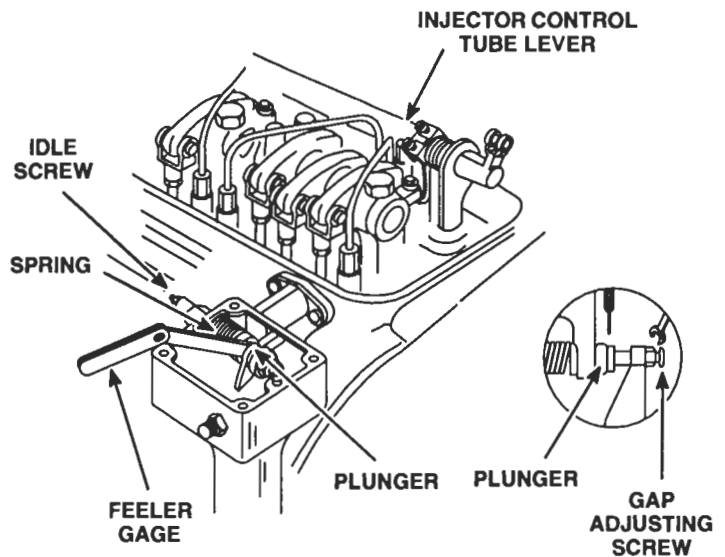

Figure 4. Adjusting Governor Gap (Double-Weight Governor)
6. Check the gap between the low-speed spring cap and the high-speed spring plunger with a feeler gage (Figure 4.) The gap should be .002–.004 inch. If the gap setting is incorrect, reset the gap adjusting screw.